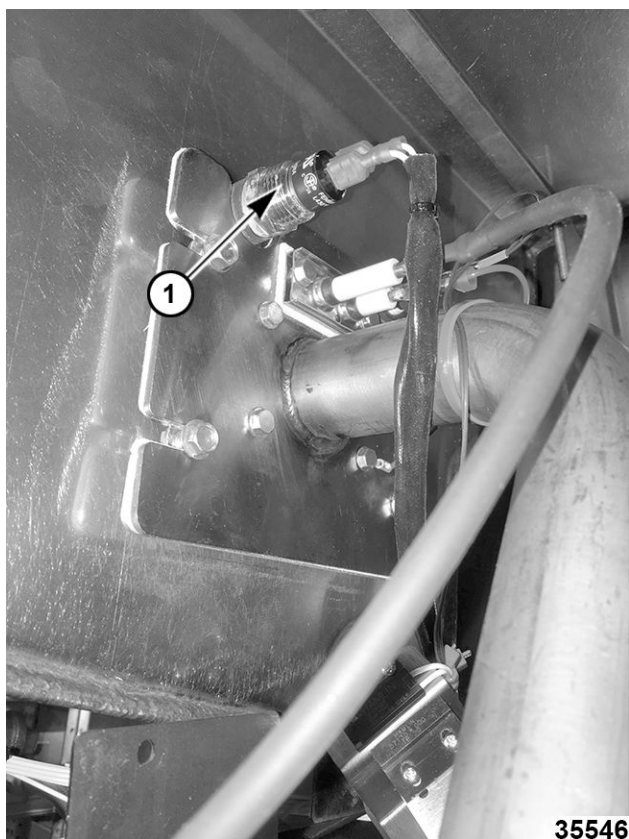

Fig. 18
5. Slide high limit probe (1, Fig. 18) out of fry tank.
NOTE: High limit no capillary wire type shown in Fig. 18.